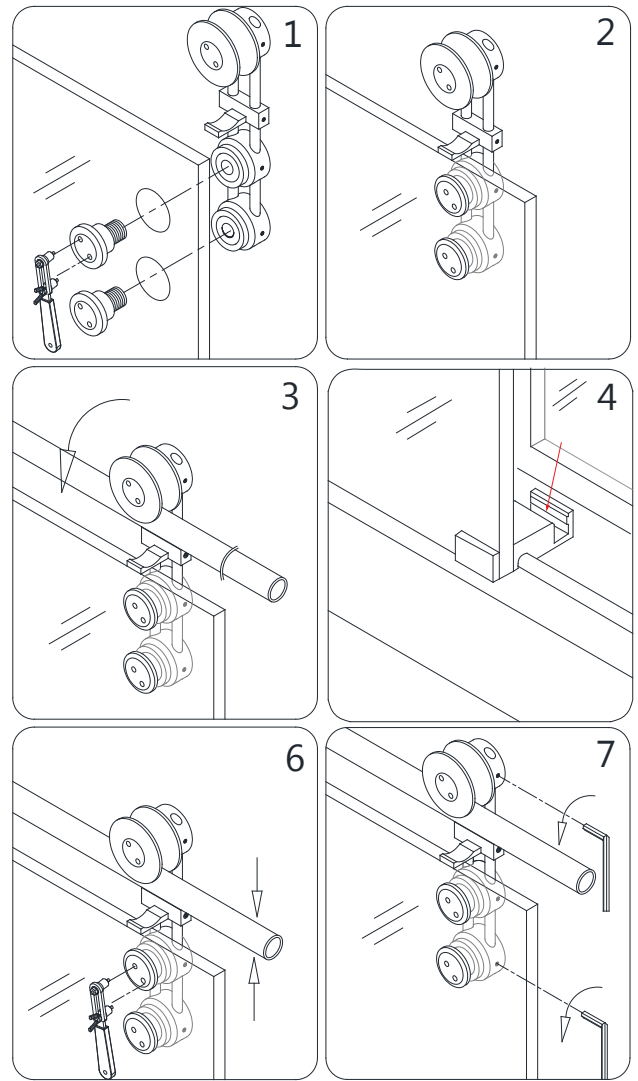
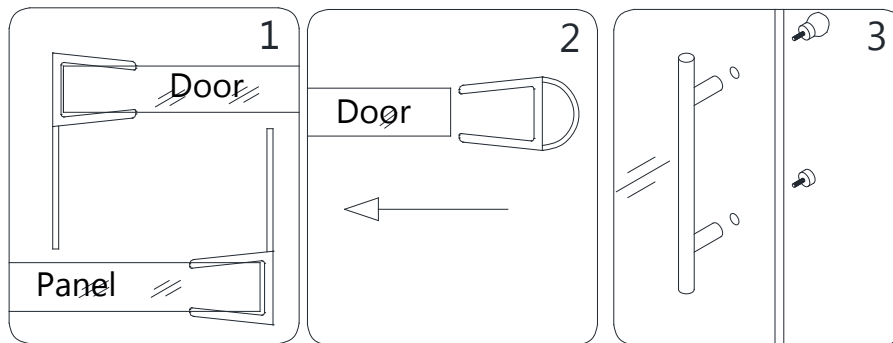

Fig. 18
Fig. 19
(Fig. 18 and Fig. 19)
16. Press the **Anti-Water Strip (#14)** on the vertical edges of the **Stationary Glass (#02)** and the **Door Glass (#05)**. Press the **Bumper Seal Strip (#13)** onto the vertical edge of the **Door Glass (#05)**. Attach the **Handle (#06)** to the **Door Glass (#05)**. **(Fig. 19)**
Adjust the **Roller Guards (Fig. 18)** on both **Roller Assemblies (#04)** to within 1/16" of the **Upper Guide Rail (#03)** to ensure that the **Door Glass (#05)** is secure. **(Fig. 22a and Fig. 22b)**